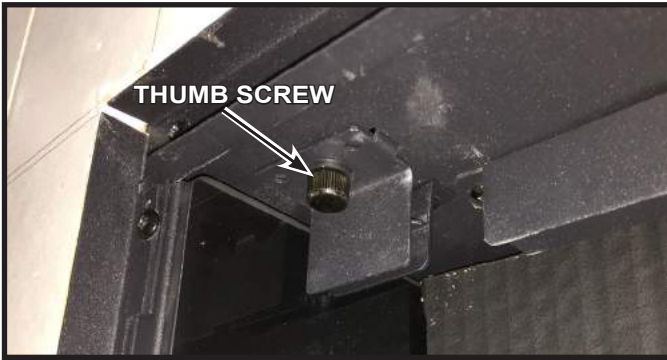

Figure 2. Remove Glass Front
1. Remove the two (2) thumb screws and brackets located on the inner upper corners of the appliance opening. See Figure 2.
3. Verify that the glass gaskets are located on the top corners of the glass. Set the bottom edge of glass into the glass channel and tip back into the appliance until it rests against the glass stops. See Figure 2.